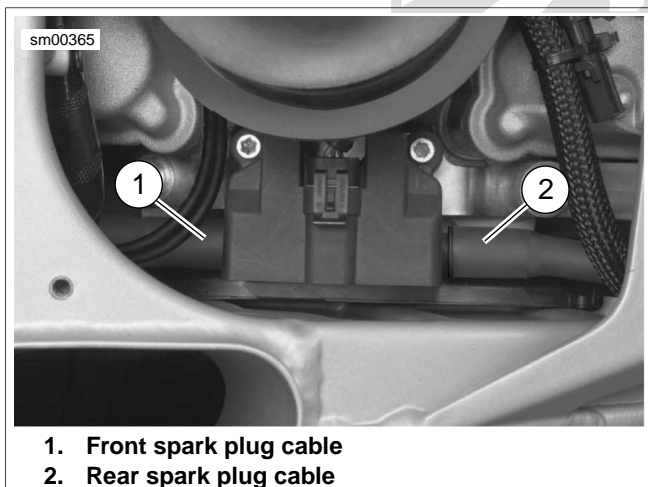

Figure 6-12. Spark Plug Cable Location
3. See Figure 6-12. Disconnect spark plug cables (1, 2) from ignition coil and spark plug terminals.